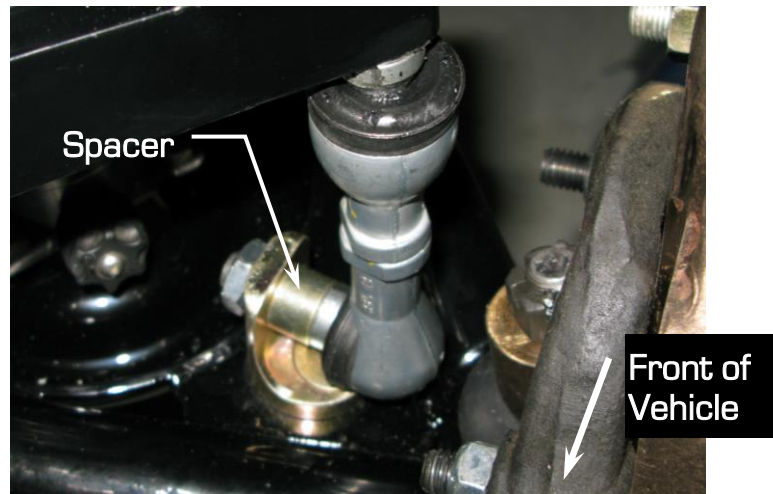

Figure 1 – Adapter Orientation
9. Install the sway bar end link adapter on the lower control arm. Refer to Figure 1 on the next page for the correct orientation. Use the provided 1/2"-20 x 1-1/2" countersunk bolt, flat washer, and the Nylock lock nut. Torque to 70 ft-lbs.
11. Raise the lower control arm with a floor jack so the suspension is not in full droop. Place the stud from the sway bar end link through the hole in the sway bar end link adapter. If the car is a '64-'67 model, use the 3/4" OD x 1/2" ID x 1/2" L long spacer and on the '68-'72 models use the 3/4" OD x 1/2" ID x 1/4" L spacer. Refer to Figure 1 above to see the location of the spacer. On the '64-'67 models, use the M12 x 1.75mm hex jam nut and flat washer. On the '68-'72 models, use the M12 x 1.75mm Nylock jam nut and flat washer. Apply High Strength Loctite 282 to the threads but do not tighten at this point.